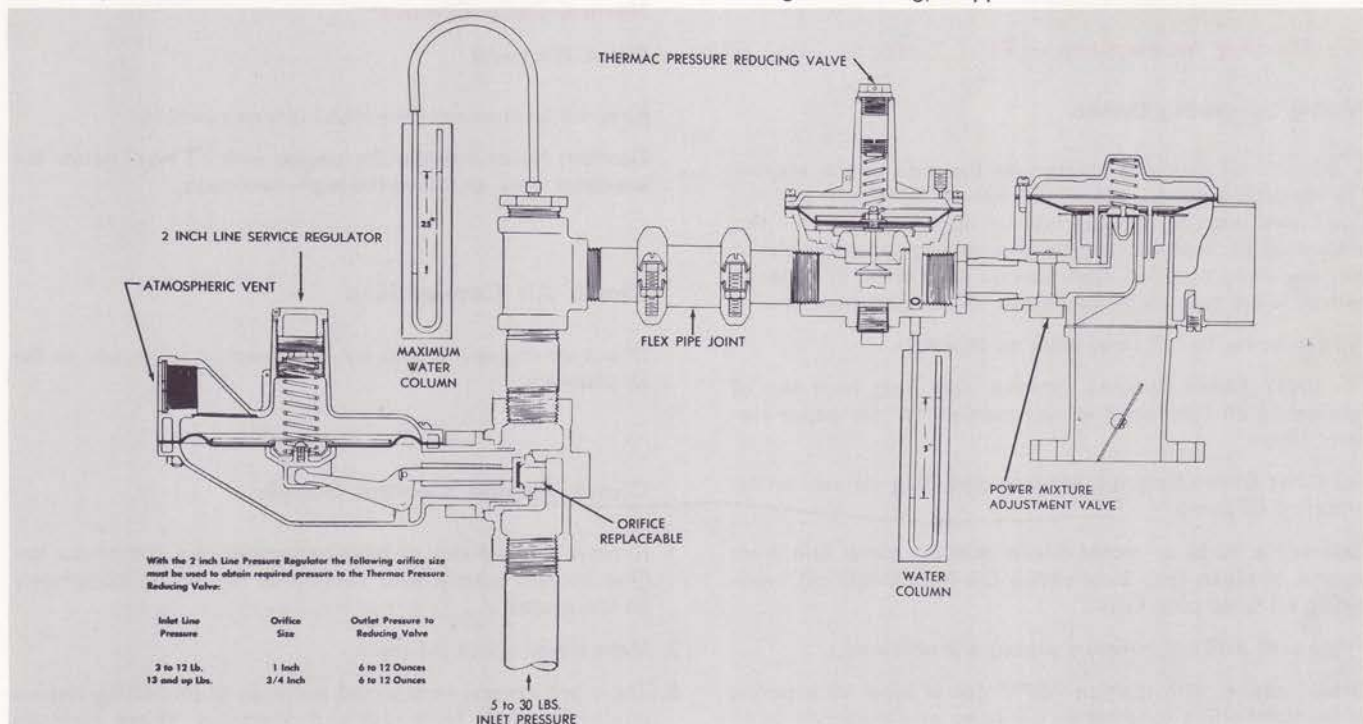

Fig. 2-1. Preferred piping — schematic
4. Connect gas supply piping as suggested in Preferred Piping Schematic Fig. 2-1.